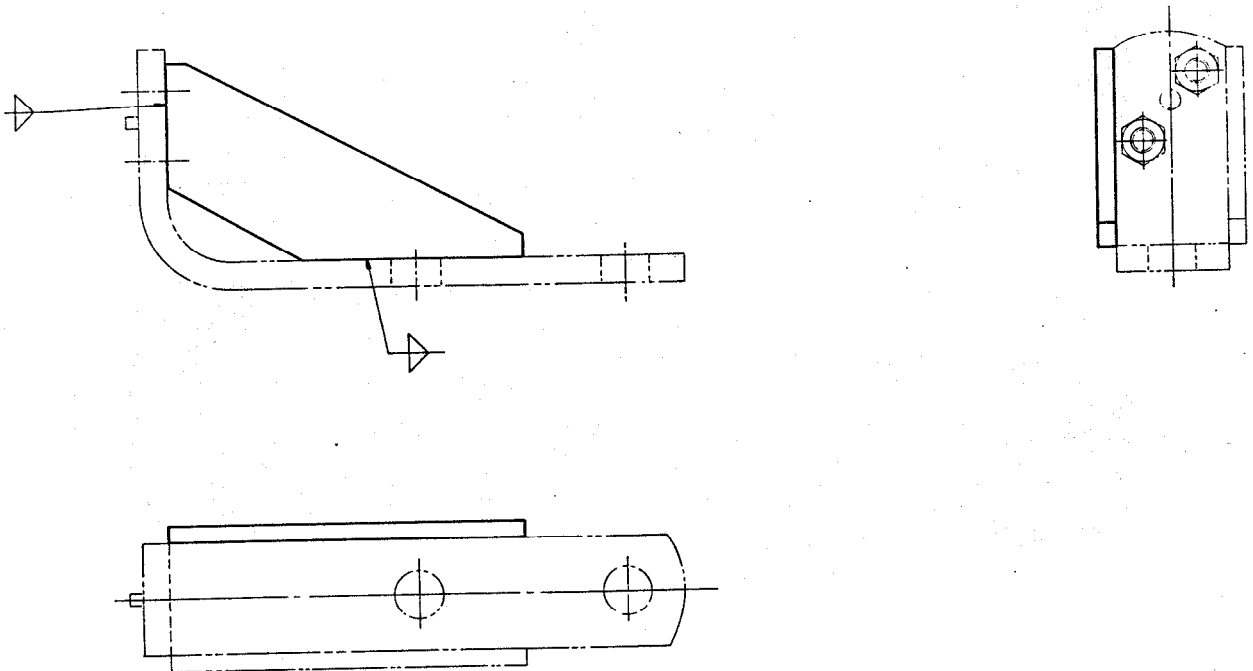

FIG 3 - ASSEMBLY WELDING DETAILS
- d. Fit and weld the gusset to the bracket as shown in Fig 3.